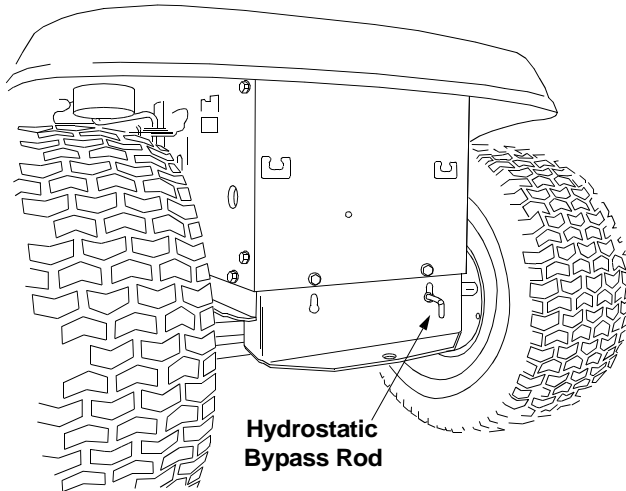

Figure 5
- Locate the hydrostatic bypass rod in the rear of the tractor. See Figure 5.